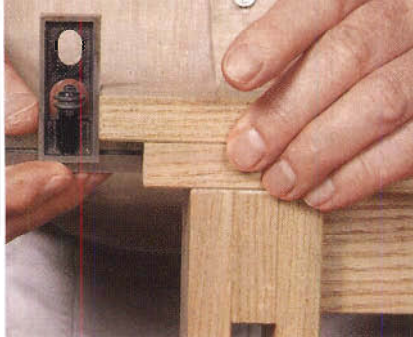

Figure 8. Position the overhang of the foot piece using a sliding head square, then screw into place.
Step 9: Attach the foot pieces. Position each piece with an 11/16" overhang and screw into place. (See *Figure 8*.)